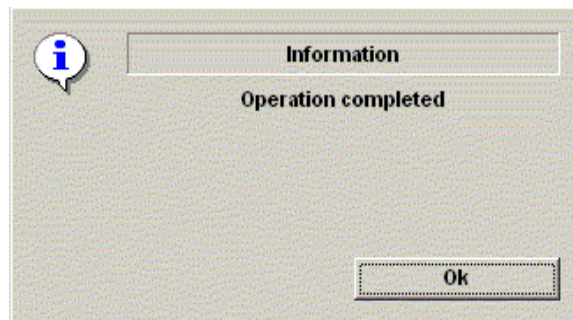

Figure 4-17 Format Successful Pop-up Menu
- 5.) The Ultrasound system displays a pop-up menu, as shown in Figure 4-17. When the formatting has been completed, press **OK** to continue.